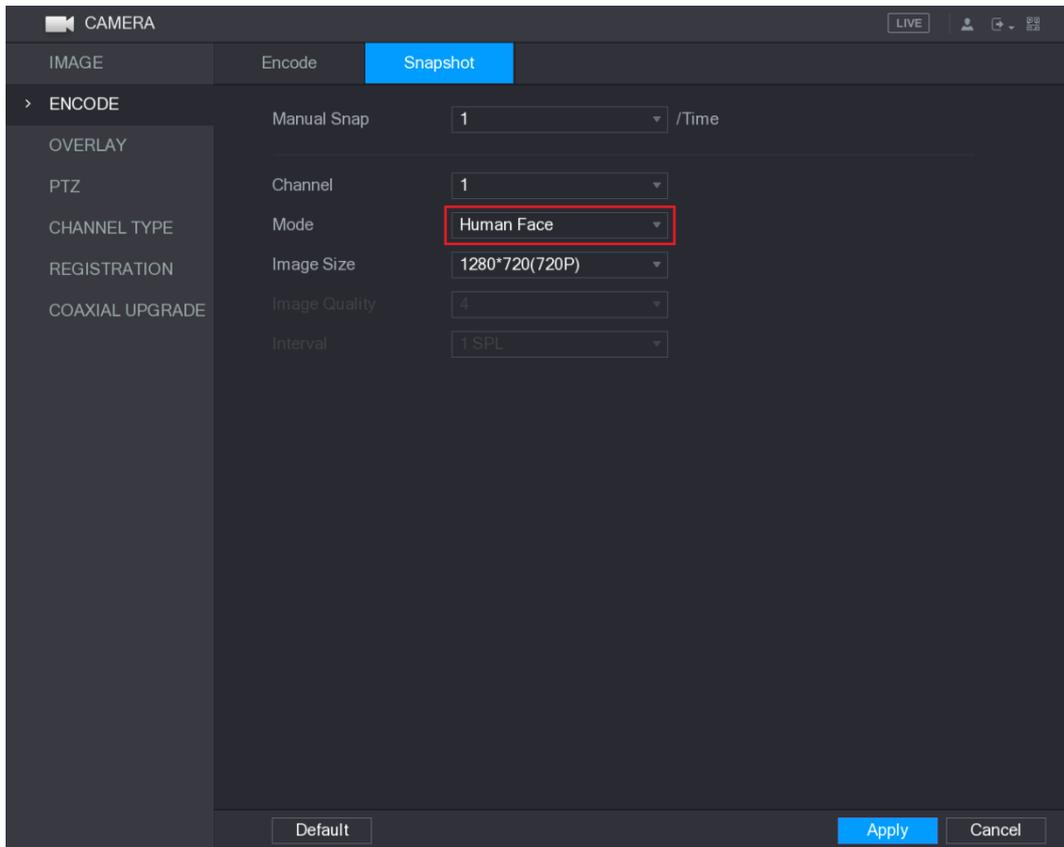

Figure 5-89
Step 2 In the **Mode** list, select **Human Face**, and then configure other parameters. See Figure 5-89.